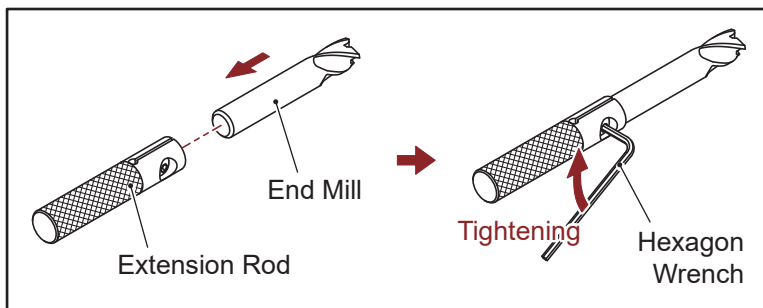

Fig. 7-4
- ✘ If the end mill is too short, the extension rod in the accessory is available for use. Choose the proper extension rod according to the end mill's shank diameter. Insert end mill's shank into the extension rod, and use 2 mm hexagon wrench to tighten the side screw of the extension rod to secure the end mill. (Fig. 7-4)